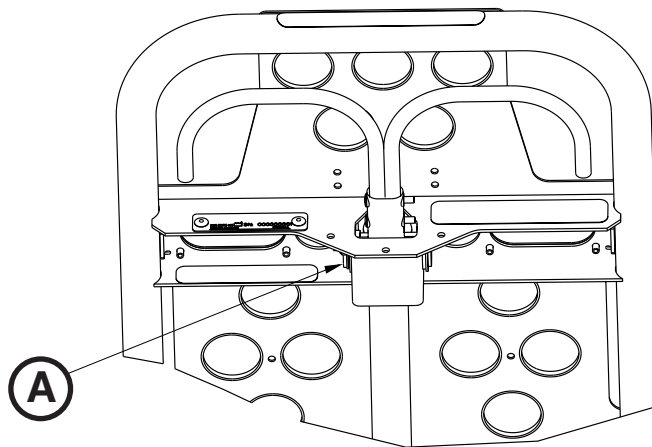

Figure 86
2. Using a 3/32" hex wrench, loosen the set screw (A) that holds the gas shaft to the yoke (Figure 86).